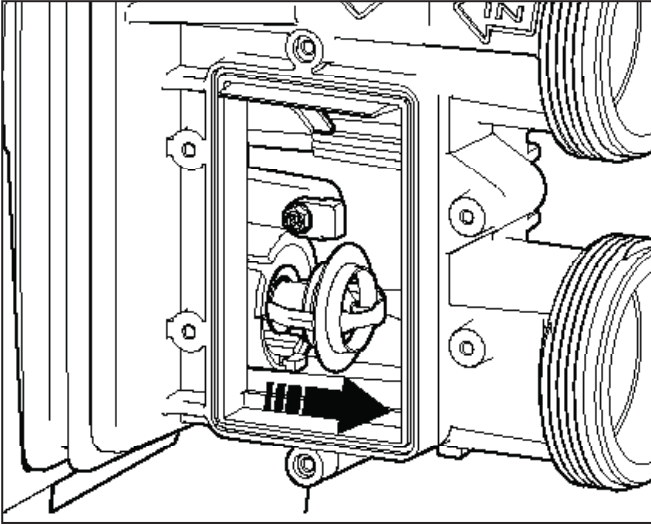

Figure 4. Remove TRV
- Slide the thermal regulator valve (TRV) sideways out from under the locking tab and remove it (see Figure 4).